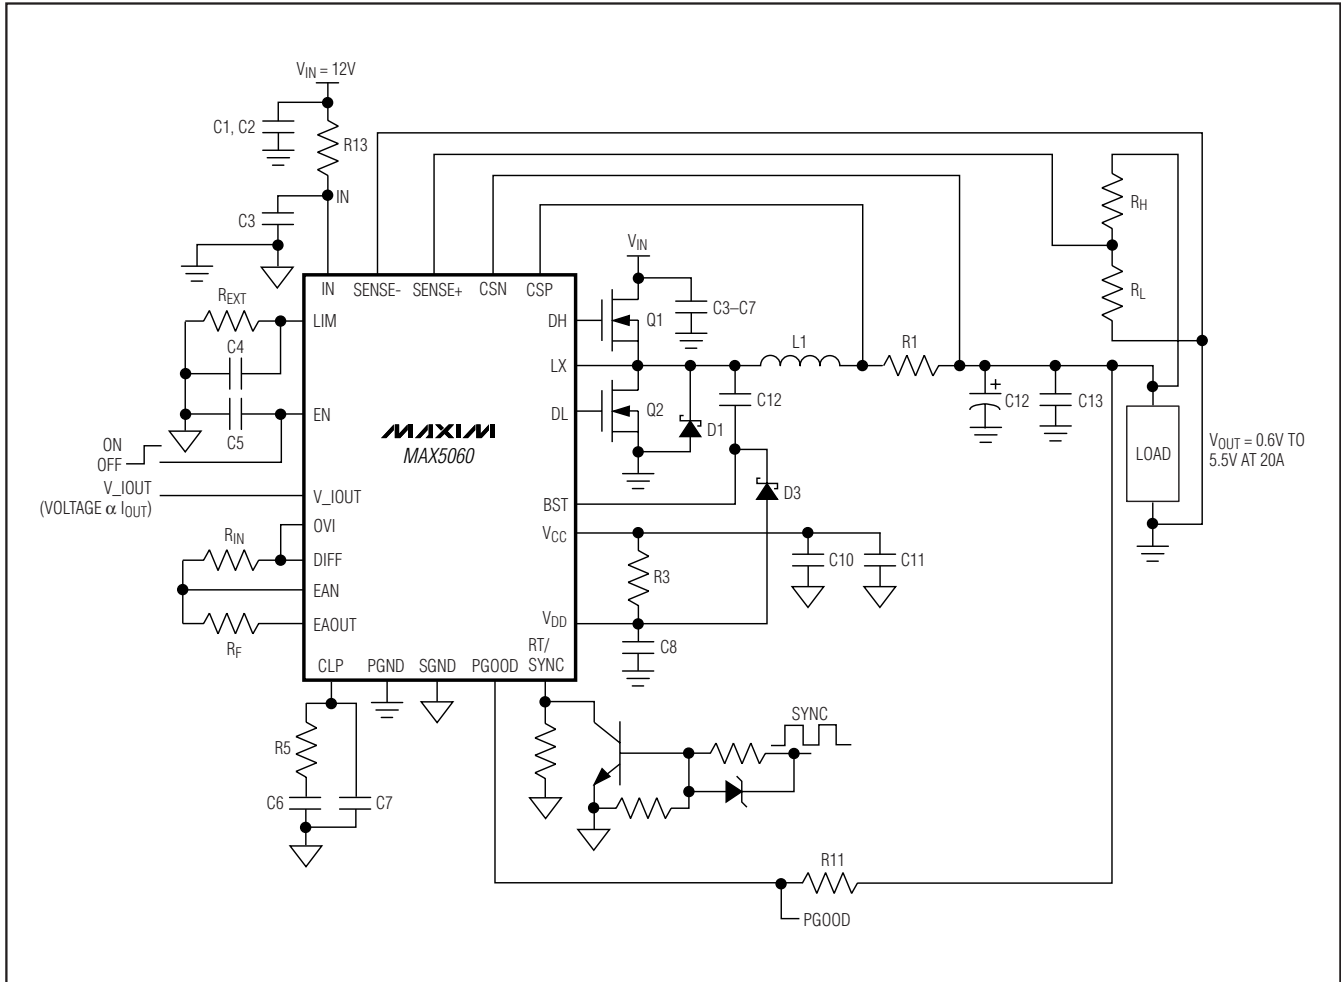

Figure 1. Typical Application Circuit,  $V_{IN} = 12V$  (MAX5060)
( $T_A = +25^\circ\text{C}$ , Figures 1 and 2, unless otherwise noted.)
Use an open-collector transistor to synchronize the MAX5060/MAX5061 with the external system clock (see Figures 1 and 2).
The VEA output clamps to 930mV relative to the internally generated common-mode voltage ( $V_{CM}$ , 0.6V), thus limiting the maximum output current. The maximum average current-limit threshold is equal to the maximum clamp voltage of the VEA divided by the gain (34.5) of the current-sense amplifier. This results in accurate settings for the average maximum current for each phase. Set the VEA gain using  $R_F$  and  $R_{IN}$  (see Figures 1 and 2) for the amount of output voltage positioning required within the rated current range as discussed in the *Adaptive Voltage Positioning* section. The finite gain of the VEA introduces an error in the output voltage setting. Use the following equation to calculate the output voltage at no load condition.
The high-side (DH) and low-side (DL) drivers drive the gates of external n-channel MOSFETs (Figures 1 and 2). The drivers' 4A peak sink- and source-current capability provides ample drive for the fast rise and fall times of the switching MOSFETs. Faster rise and fall times result in reduced cross-conduction losses. For modern CPU voltage-regulating module applications, where the duty cycle is less than 50%, choose high-side MOSFETs (Q1) with a moderate  $R_{DS(ON)}$  and a very low gate charge. Choose low-side MOSFETs (Q2) with very low  $R_{DS(ON)}$  and moderate gate charge. Size the high-side and low-side MOSFETs to handle the peak and RMS currents during overload conditions.